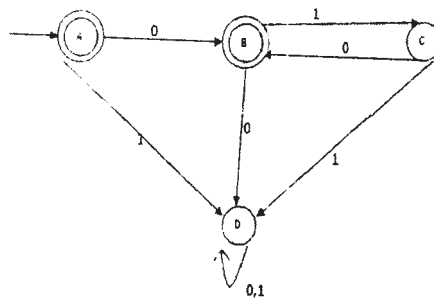

Fig 1
c) Give the Right & Left linear grammar for the following DFA shown in Fig 1 [8]